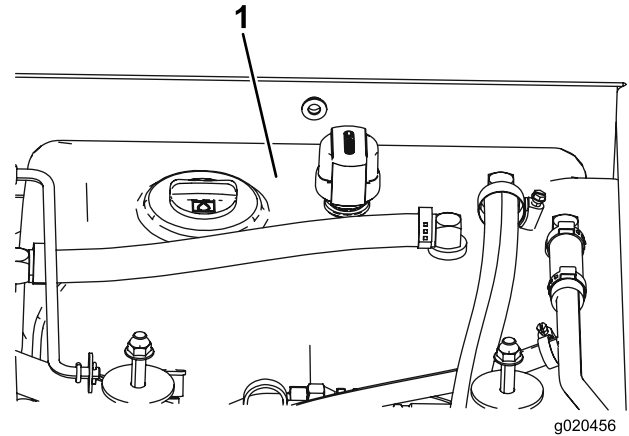

Figure 73
4. Fill the reservoir (Figure 73) with hydraulic fluid; refer to Checking the Hydraulic Fluid (page 52).